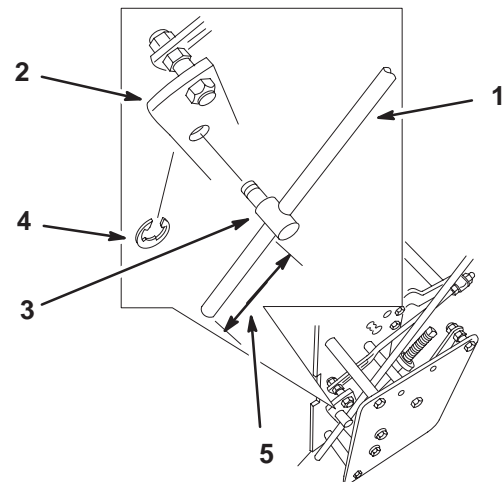

Figure 5
- Thread rod fittings equal distance onto each control rod. For a starting point, thread rod fittings onto control rod approximately 2-1/2 in. (63.5 mm) from the bottom (Fig. 5).
- Install rod fittings to idler brackets with clevis pins and e-ring (Fig. 5).
1. Place the speed control lever full forward (Fig. 5).
2. Thread yoke onto speed control rod approximately 3/4 in. (19 mm) (Fig. 5).
3. Install yoke to the speed control crank with a clevis pin, washer and hairpin cotter (Fig. 5).
4. Secure yoke with jam nut (Fig. 5).